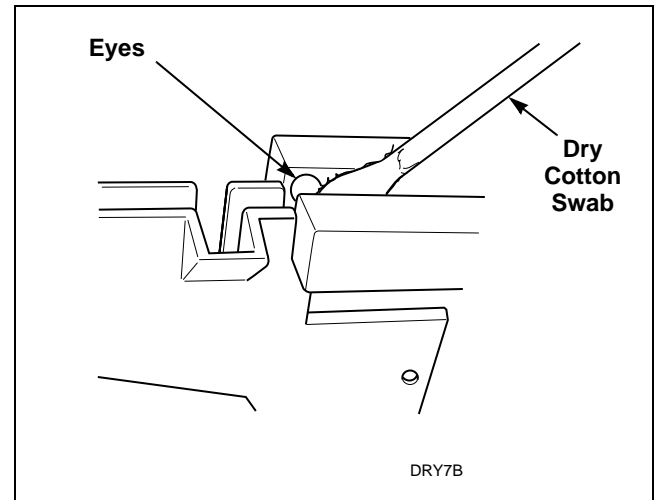

Figure 53
- j. Check coin drop sensor for dust or dirt on eyes. Wipe eyes with dry cotton swab. Refer to *Figure 53*.